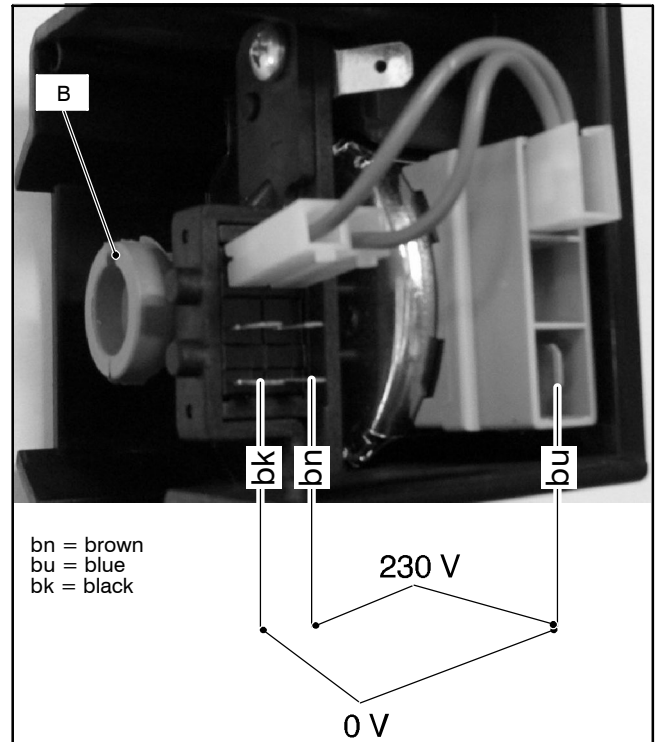
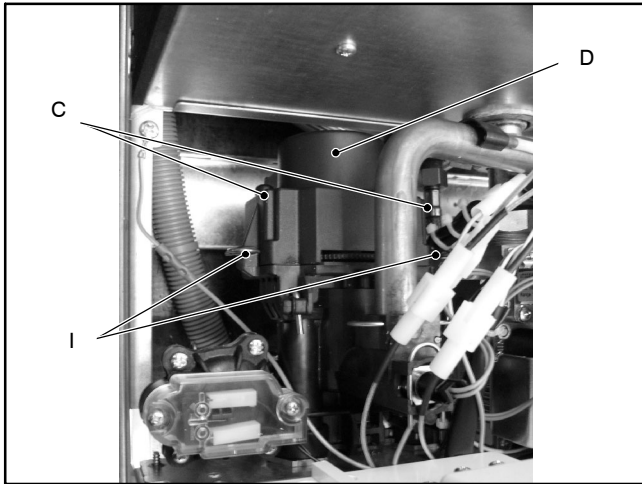
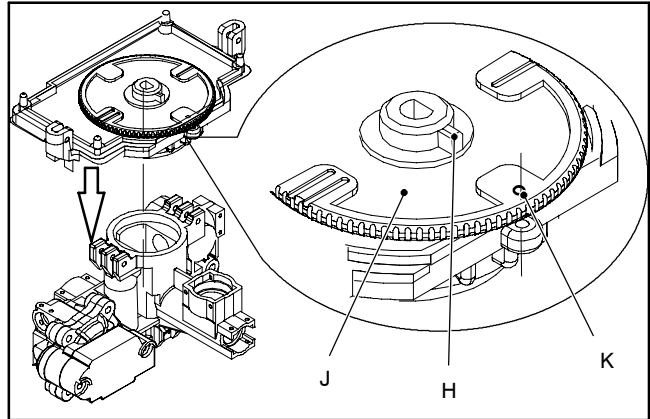

Fig. 22 – D.h.w. mode
Fig. 24
Fig. 26
Fig. 22 indicates the relationship between the electric command coming from the electronic control p.c.b. and the position of the actuator *B* when the boiler operates in **d.h.w. mode**.
- 2 Disconnect the lockpins *C* and move upwards the electric actuator *D* (Fig. 24).
- 5 Reassemble the actuator carrying out the removal operations in the reverse order. When reassembling the actuator group, refer to Fig. 22 or to the wiring diagram in section 3.1 for the correct wiring connection. Pay attention to match the actuator *B* (Fig. 24) with the locating tab *H* (Fig. 26).
- 4 Remove the lockpins *I* rotating and pulling them forward (Fig. 24).
- 5 Rotate the plate *J* until the notch *K* is on the position of Fig. 26 (idle position).
- 8 Reassemble the diverter group carrying out the removal operations in the reverse order. When reassembling the diverter group pay attention to mount it in idle position (Fig. 26).